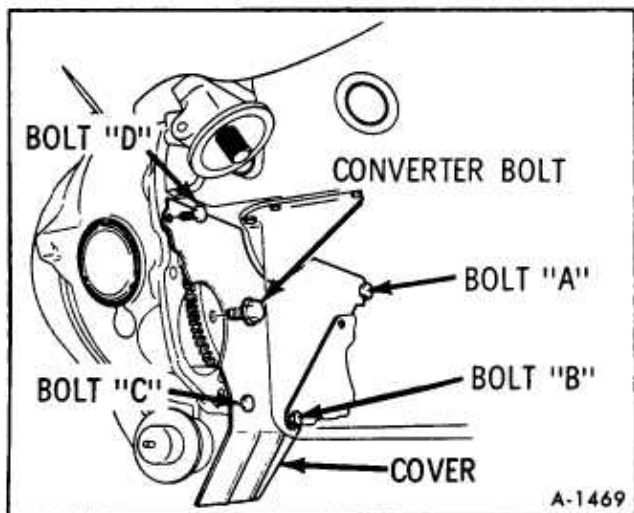

Figure 57—Flywheel Cover Removal
6. Referring to Figure 57, remove flywheel cover bolts "B", "C" and "D". Loosen bolt "A" and pivot cover out of the upper L.H. bolt "A" slot.
NOTE: Rotate flywheel to gain access (Refer to figure 57).
6. Install three (3) converter to flywheel bolts. Torque to 30 ft. lbs.
**NOTE:** Rotate flywheel to gain access. Refer to Figure 57.
14. Referring to Figure 57, install flywheel cover and tighten bolts "A", "B", "C" and "D" to 5 ft. lbs. torque.